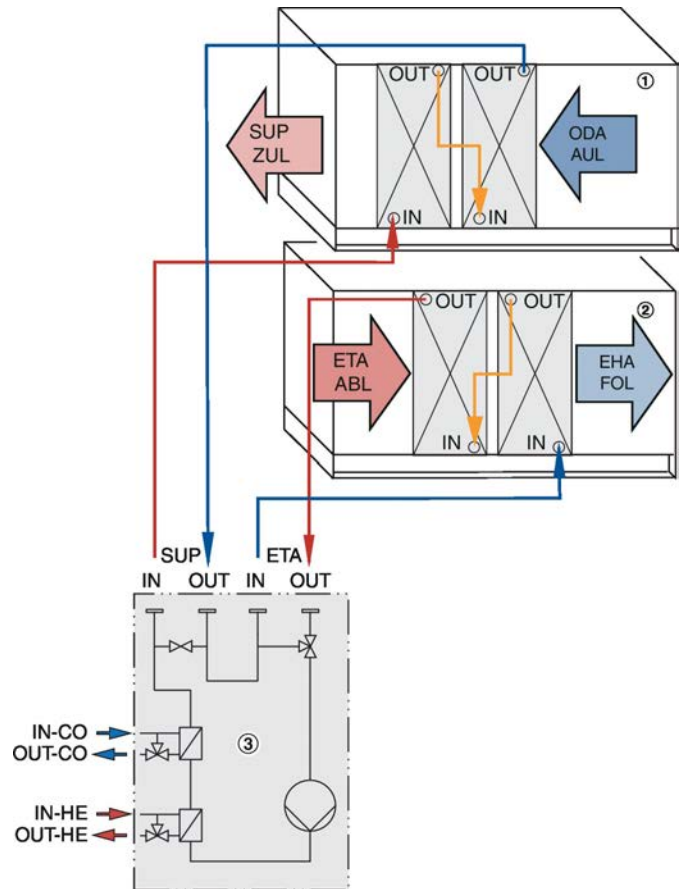

Fig. 20: Hydraulic system connection (example)
- ① Supply air unit
- ② Extract air unit
- ③ hydraulic unit
1. ▶ Connect the heat exchanger with the hydraulic unit ( Fig. 20 ).
2. ▶ Run-around coil systems with external feeding: Make the required connections ( Fig. 20 ).